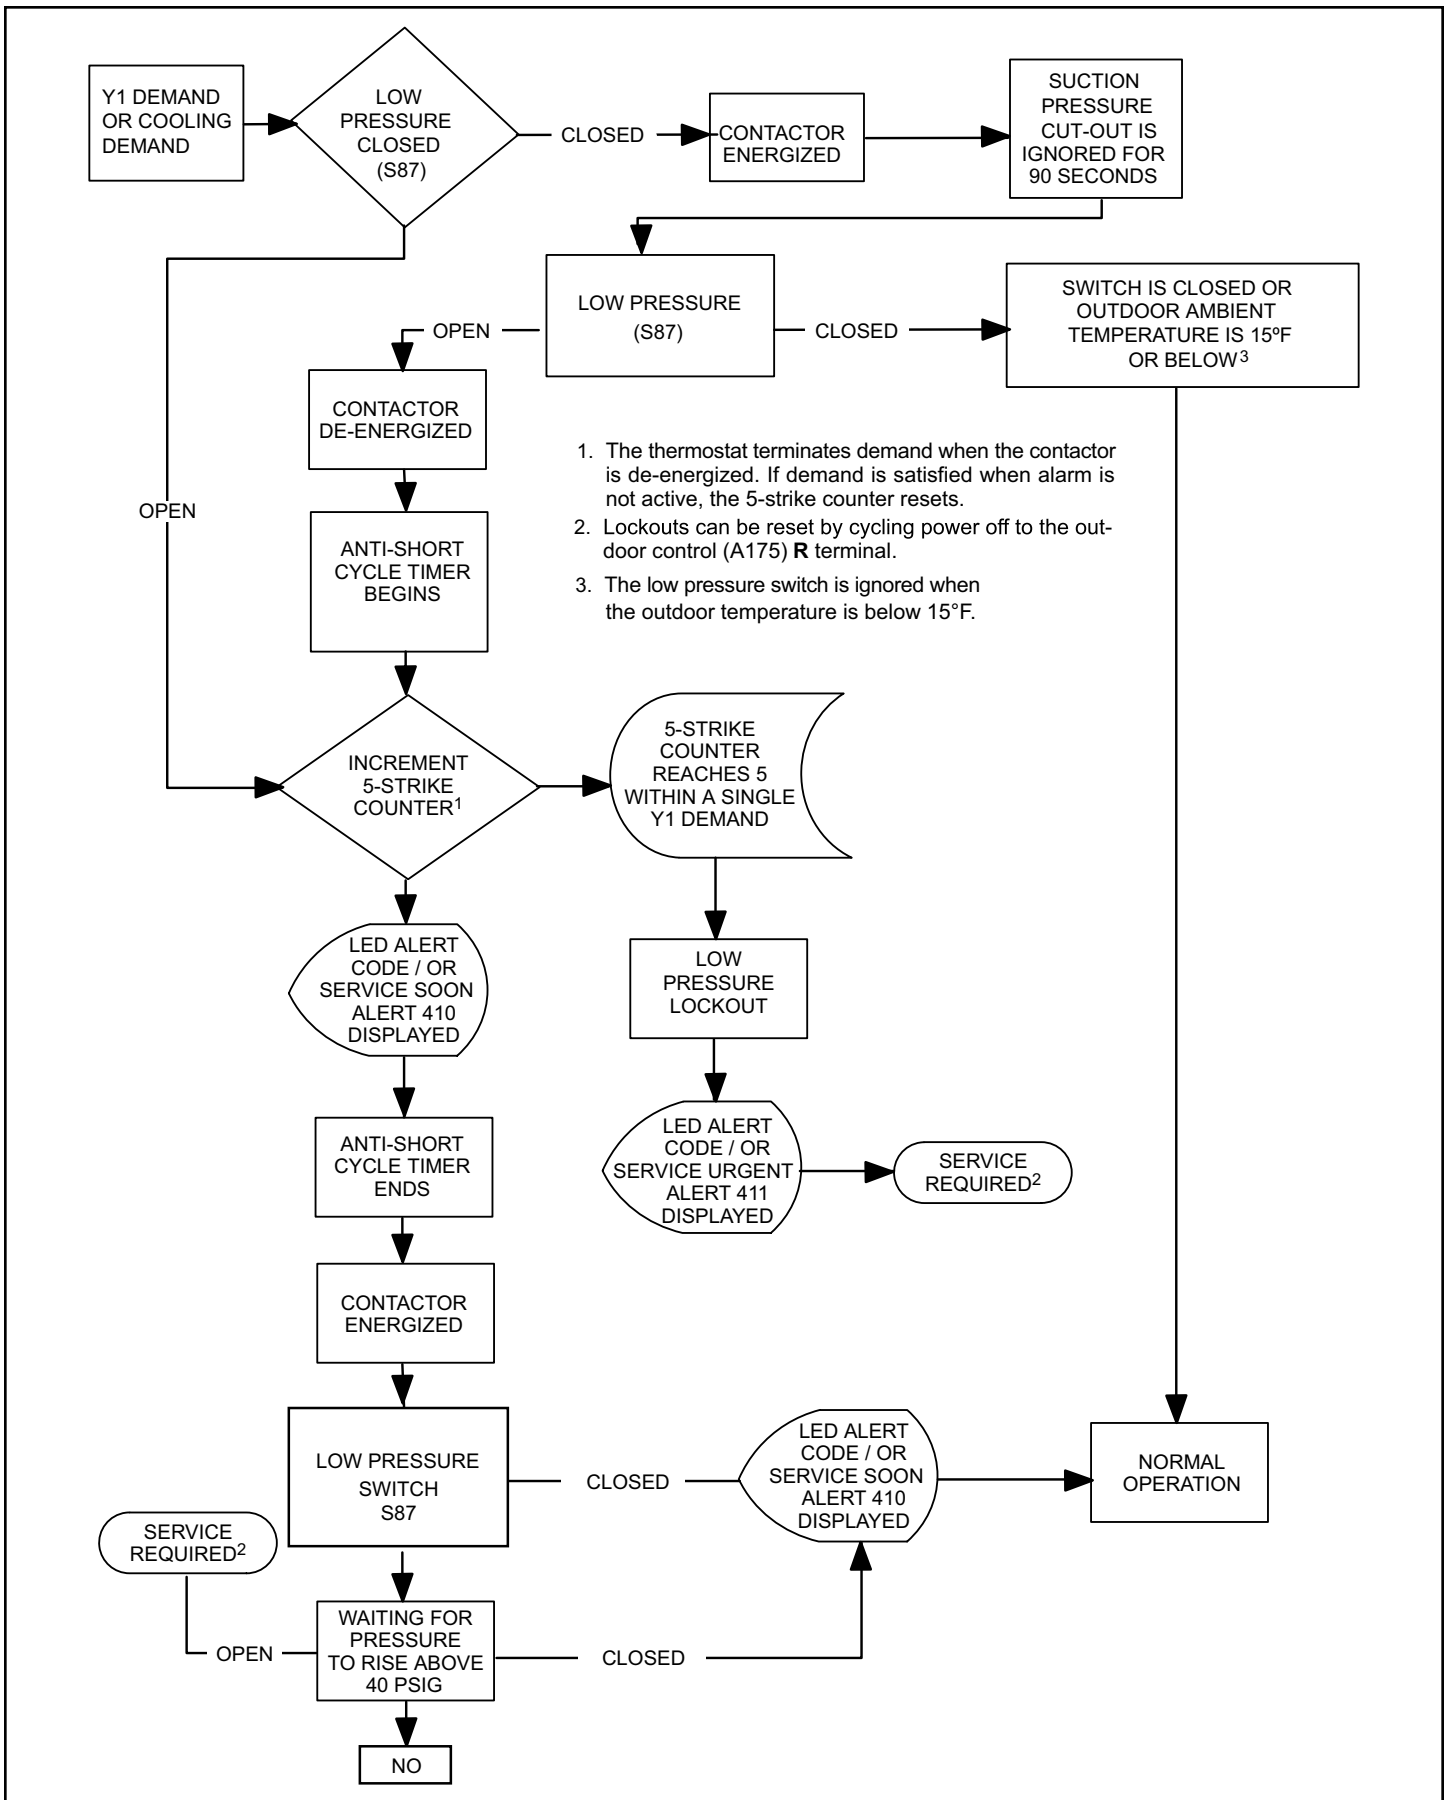

Figure 33. Low Pressure Switch (S87) Sequence of Operation (All Units)
**Low Suction Pressure Protection** – See Figure 33 for low suction pressure protection sequence of operation.